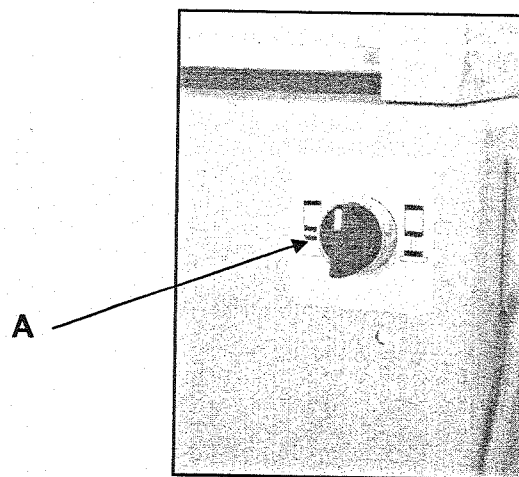

Fig. 3
2. Activate the blocking of the pneumatic clamps through the selector situated on the front side of the machine (Fig. 3 part. **A**).